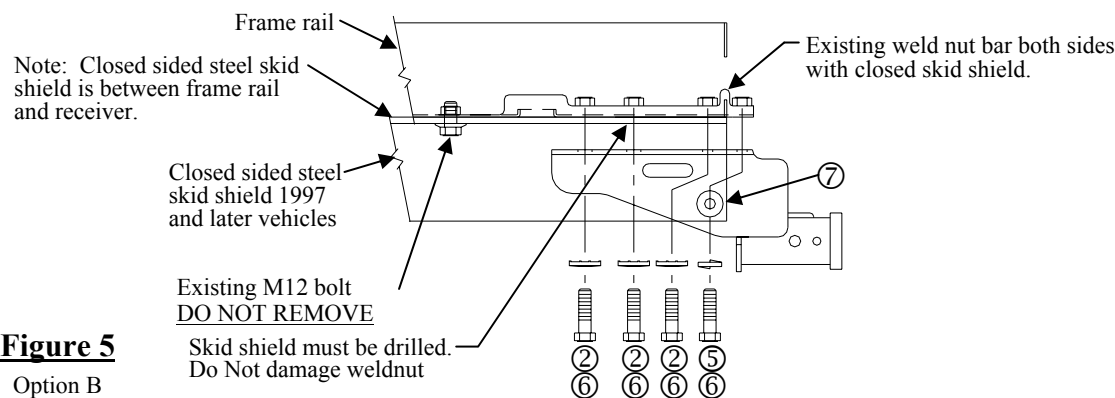

**Figure 3**
A. Remove tow hook and tow hook bracket; Return component to vehicle owner. Mount driver's side of receiver using M12 bolts as shown in Figure 1. Mount passenger side of receiver as shown in Figure 3.
**Option D** – See Figure 3
A. Using pullwire feed 1/4 X 1-1/2 X 2 blocks (Item 9 & 10) and carriage bolts through end of frame and into existing holes. Raise hitch into position and attach per Figure 3.